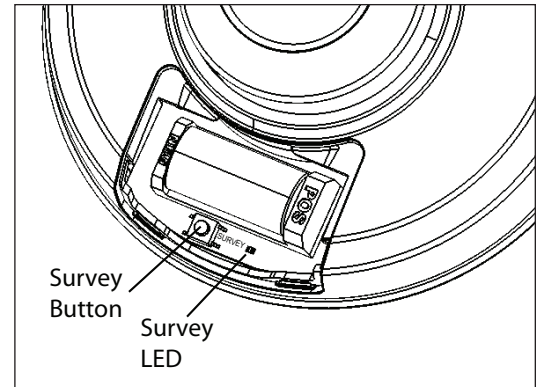

Figure 2: Survey Button
3. Press the survey button (See Figure 2) to send data to the receiver to confirm operation.